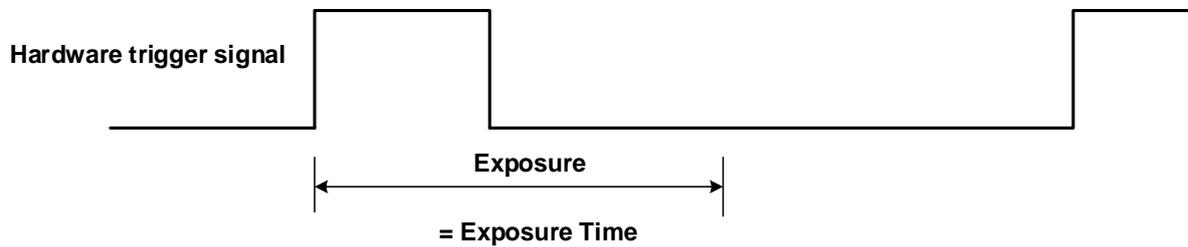

Figure 8-23 The sequence diagram in rising edge trigger of Timed exposure mode
- If rising edge triggering is enabled, exposure starts when the trigger signal rises and continues until the exposure time has expired, as shown in Figure 8-23